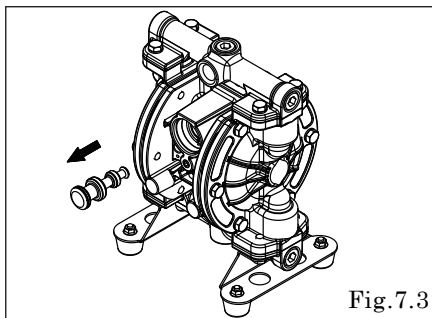

Fig.7.3
- Remove Spool assembly by pushing it from Cap A side (the side without reset button). [Fig.7.3]